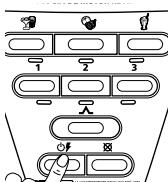

Fig. 21
1. Press the $\odot\ddagger$ (Fig. 21) power button to turn the product on.
3. Press the $\odot\ddagger$ (Fig. 21) power button to turn the product off.
3. Press the power button to turn the product off (Fig. 21).